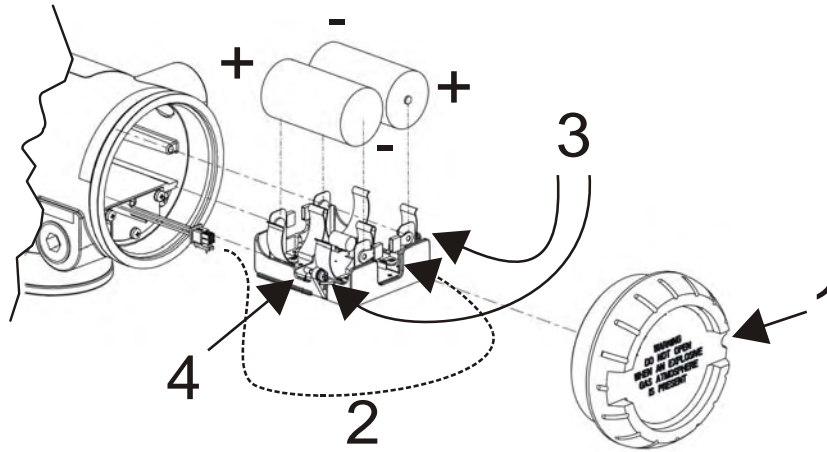

Figure 10 Battery replacement
1	Loosen the M3 locking set screw on the battery end-cap (opposite end from display). See item 1 in Figure 10. Unscrew and remove the end cap.
2	Using thumb and forefinger, squeeze the battery connector at top and bottom to disengage the locking mechanism, then pull to disconnect. See item 2 in Figure 10.
3	Loosen the two battery holder retaining screws (closest to the batteries). See item 3 in Figure 10. The screws are captive.
5	Remove the old batteries from the battery holder. If needed, pry out the batteries by using a slotted screwdriver as a lever in the holder's side slots. See item 4 in Figure 10.
1	Loosen the M3 locking set screw on the end-cap (opposite end from display). See item 1 in Figure 10. Unscrew and remove the end cap.
2	Using thumb and forefinger squeeze the power connector at top and bottom to disengage the locking mechanism then pull to disconnect. See item 2 in Figure 10.